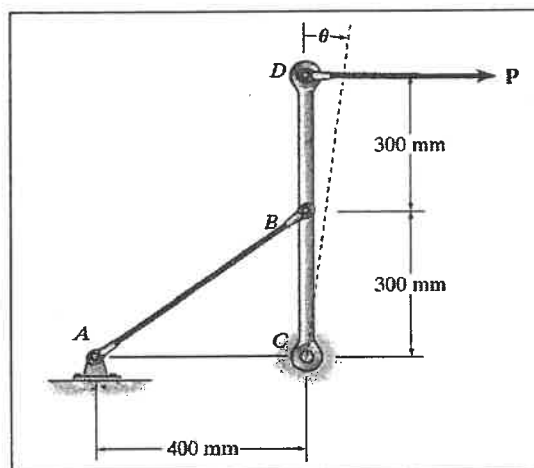

Figure 1
- (a) Figure 1 shows part of a control linkage of an airplane having a rigid member CBD and a flexible cable AB. Originally the cable was unstretched. A force is applied to the end D of the member and causes a normal strain in the cable of 0.0035 mm/mm. Calculate the displacement of point D.